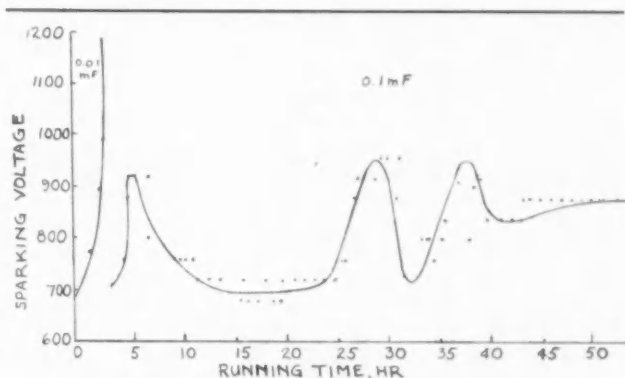

Fig. 5—Sparking voltage during test run on leaded gasoline
1. To establish the ability to cope with high lead concentrations in the fuel, one of the experimental plugs was run in a CFR engine for 55 hr (see Fig. 5) under the following conditions: